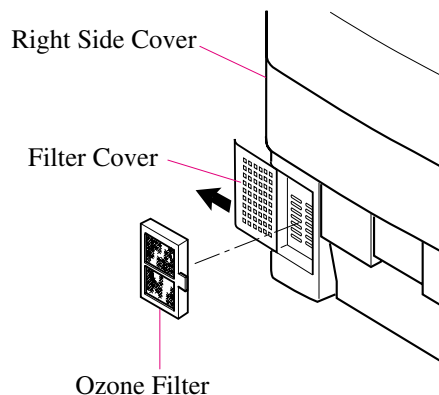

Fig. 5-27
5.3.7 Replacement of the Ozone Filter (see Fig. 5-27)